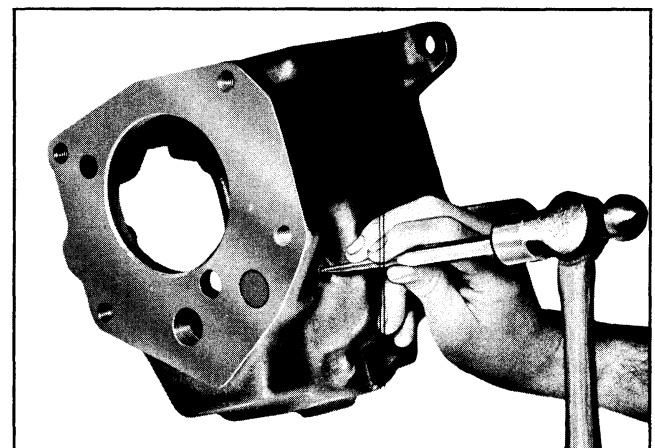

Fig. 7-20 Driving Reverse Idler Shaft Lock Pin into Shaft
15. Tap reverse idler shaft lock pin into shaft (Fig. 7-20). The pin is shorter than the diameter of the shaft so shaft may be removed when pin is driven in.